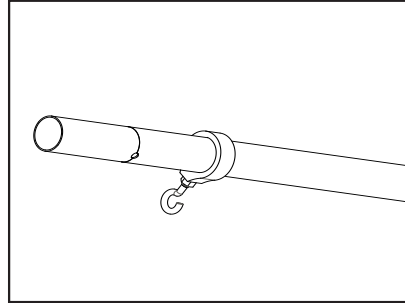

Figure 2
2. Slide ball hook collar onto the end of the boom and leave it loose. (Figure 2)